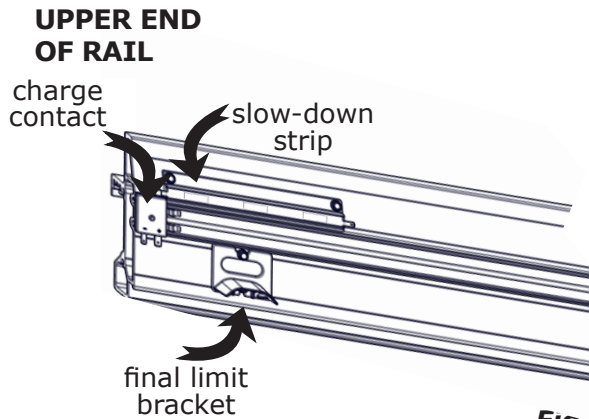

**Fig. 4**
6. Fully tighten nuts on three (3) footrest bolts inserted in Step 4.
7. Insert and tighten safety socket head screw (shear bolt) (Fig. 4).